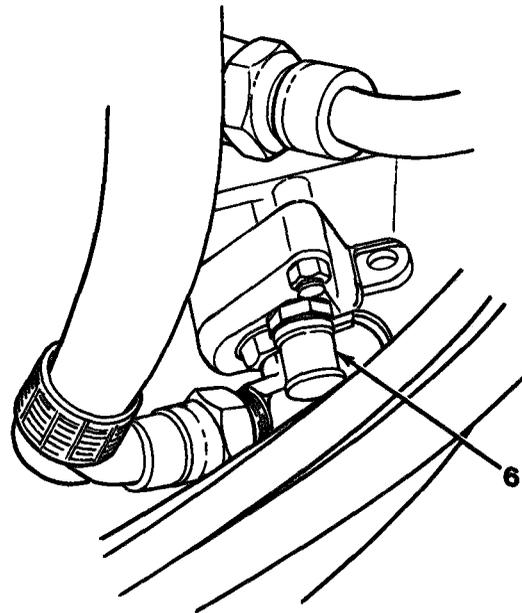

Figure 16-3
3. Remove dust cap (6, Figure 16-3) from test port located on inlet end of main control valve.